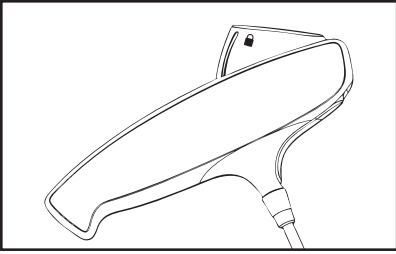

Figure 6. Port applier trigger depressed for deployment of port anchors
7. Once the deployment head is properly positioned in the dissected pocket, apply pressure to the deployment head by pushing downward on the applier handle to ensure the access port is flat against the fascia and the instrument is steadied for firing. Firmly squeeze the RapidPort® EZ Port Applier trigger until it is depressed (**Figure 6**) and the stainless steel anchors are deployed into the underlying fascia. *Do not release the trigger.*